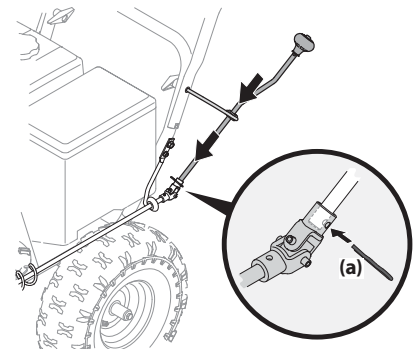

Figure 2-17
2. Insert unattached chute directional control assembly into eye bolt on left side of handle assembly. See Figure 2-17.
3. Line up holes in the end of unattached chute directional control assembly with holes in U-joint attached to lower chute directional control assembly. Insert cotter pin (a). See Figure 2-17. If necessary, bracket securing lower chute directional control assembly to chute base can be adjusted. Refer to Chute Bracket Adjustment in Service section on page 21.